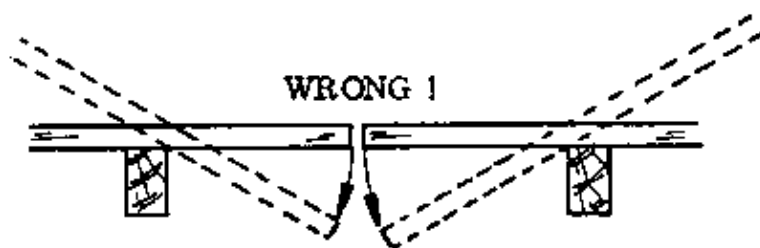
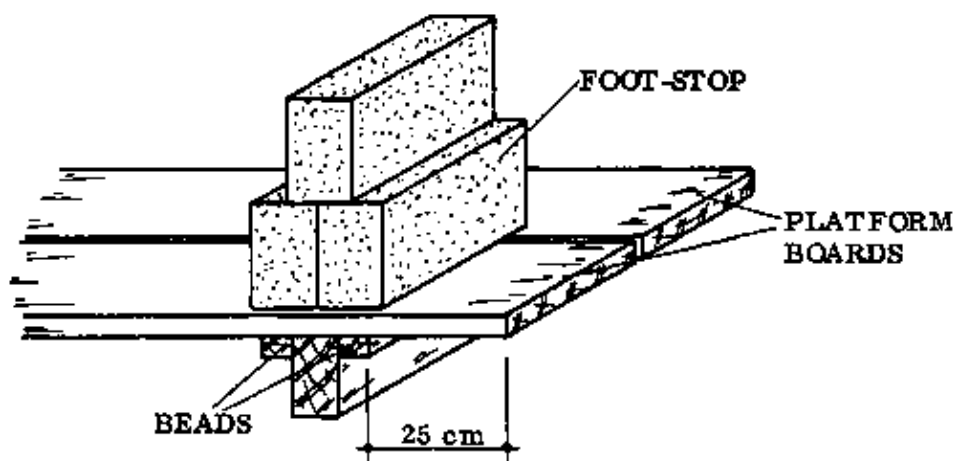

Fig. 2
Fig. 4
– Pay attention when you lay the platform boards, so you don't create a scaffold trap. This is a place which looks safe but is not (Figs. 2 & 3). The free ends of the platform must not project by more than 25 cm past the ledge, and they should be blocked off by a foot-stop (Fig. 4).
– Beads can be attached to the bottom of the platform boards to prevent them from shifting along the ledges (Fig. 4), or the platform boards can be nailed directly to the ledges.